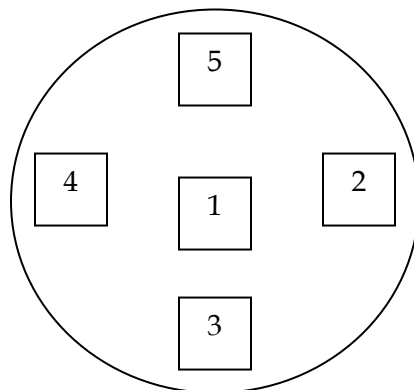

Figure 1. Five Point Method of Measuring Reflectance on Filters
2. Repeat the reflectance measurement 4 additional times, being sure to locate the measuring head in a different location than the centre each time (see Figure 1; 'Five Point Method'). Record all data on the data form.